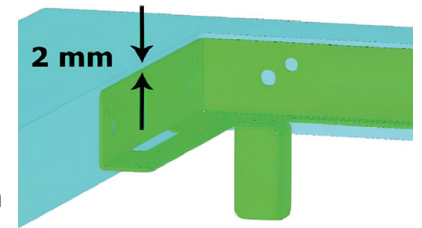

Fig.3
3. The bracket must be positioned approximately two/ three millimetres from the upper surface of the worktop, as shown in Fig.3.